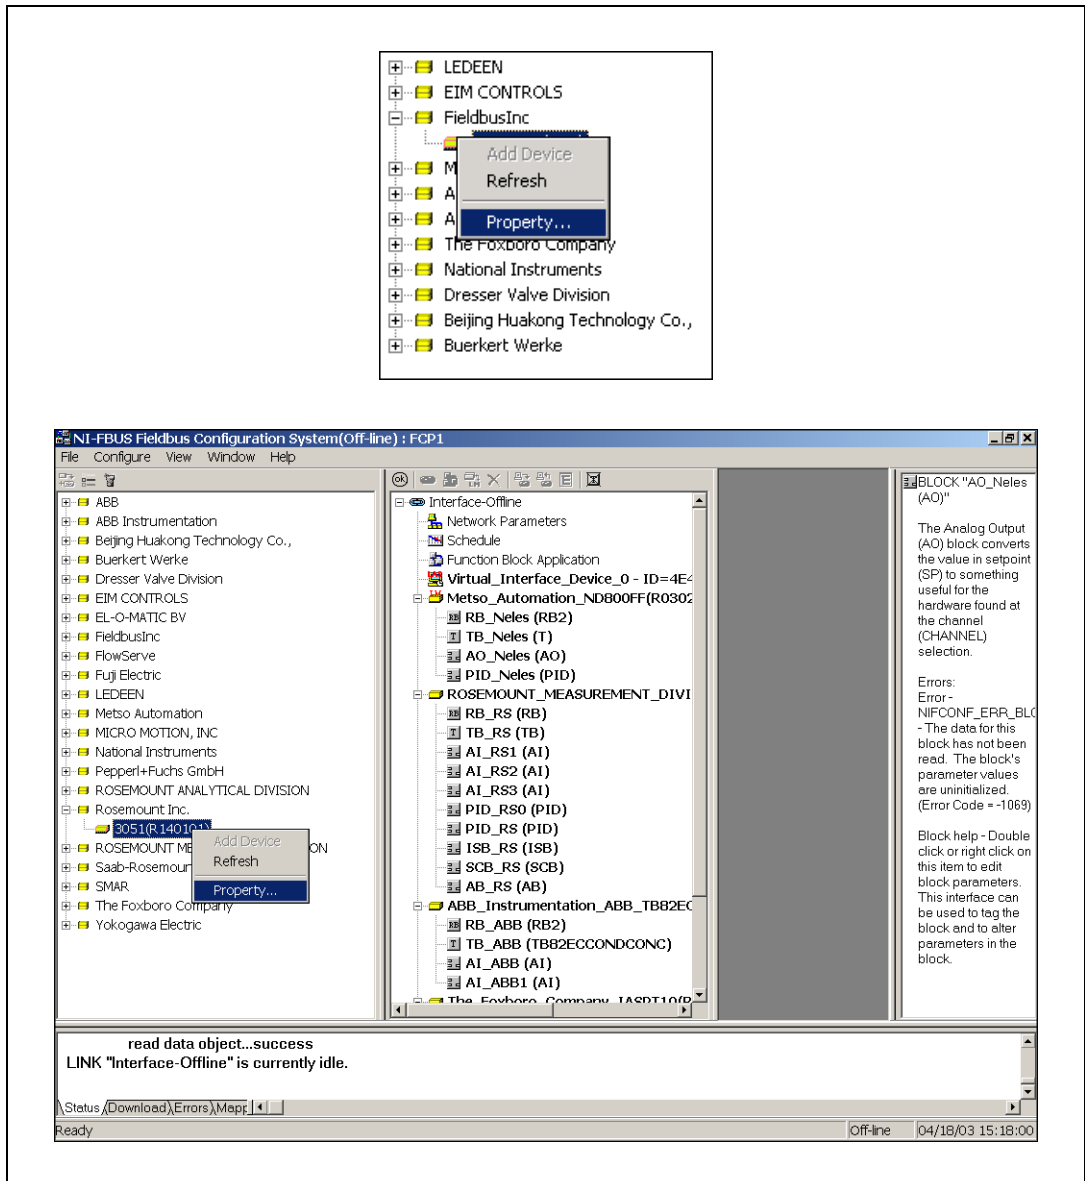

Figure 3-5. Adding Virtual Devices
1. Drag the device you want to add into the current project from the left window (device type tree) and drop it into the middle window (project window). The device list windows show the devices in hierarchy and group the devices from the same vendor under a folder. You can right-click the device types and select **Property** to view detailed information as shown in Figure 3-5.